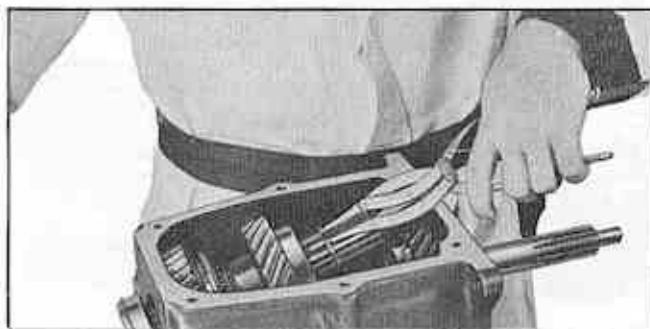

Fig. 24 Removing Second Speed Gear Snap Ring
6. Remove snap ring holding second speed gear to main shaft (Fig. 24).